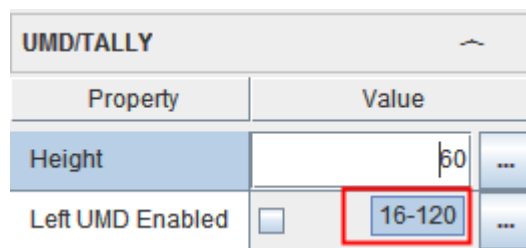

Figure 3.5-39 Tip for Value Range
- For the numerical input-capable value items in the property table, the system will provide the available input-capable value limitation, that is, after click into the target cell of the value item, and docking for a second, it will display a tip with the value range. For example: click the value cell of Height in UMD/TALLY table, the cursor is docking in this cell, after a second, it will display the available value range, as shown in Figure 3.5-39: